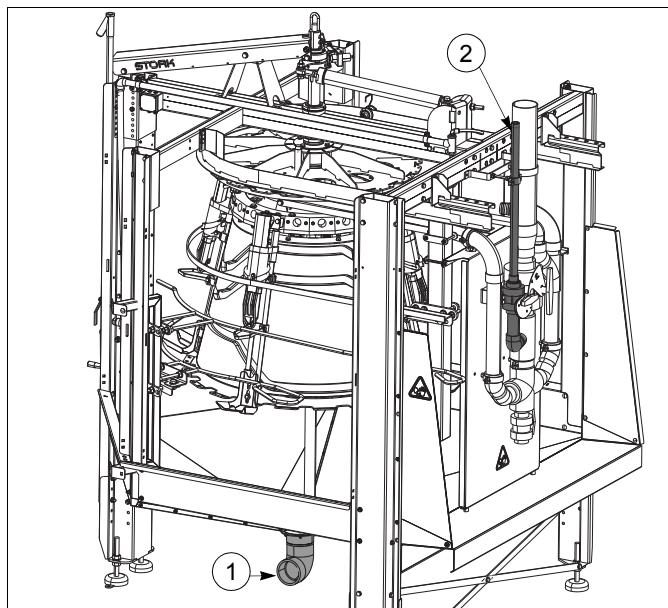

fig. 22 Connecting collecting bin and rinsing water pipe
See fig. 22.
- Connect point **2** to the hot water supply. See fig. 22.